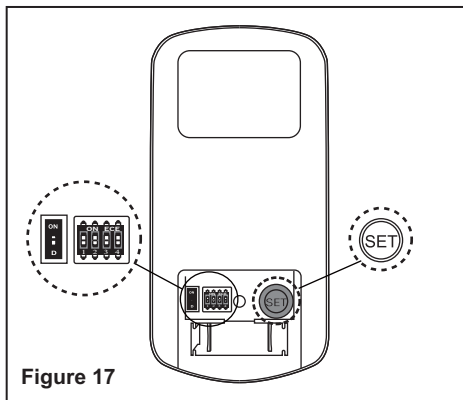

Figure 17
☀ button: Controls light. Switch the “D” and “ON” dip switch on the back of transmitter to decide the light in “ON/OFF” or “Dimmable” condition. (Fig. 17)
a) Select desired frequency from the transmitter. The dip switches can be set to 16 different combinations. (Fig. 17)
b) From the back of the transmitter, with the fan’s power off, restore power to the fan. Press and hold “SET” button for about 5 seconds and release. If optional light kit is installed, the light kit will flash twice and the signal light on the hand held transmitter will come on when the button is pressed. The fan has completed the pairing process with the remote control and is ready for use. (Fig. 17)